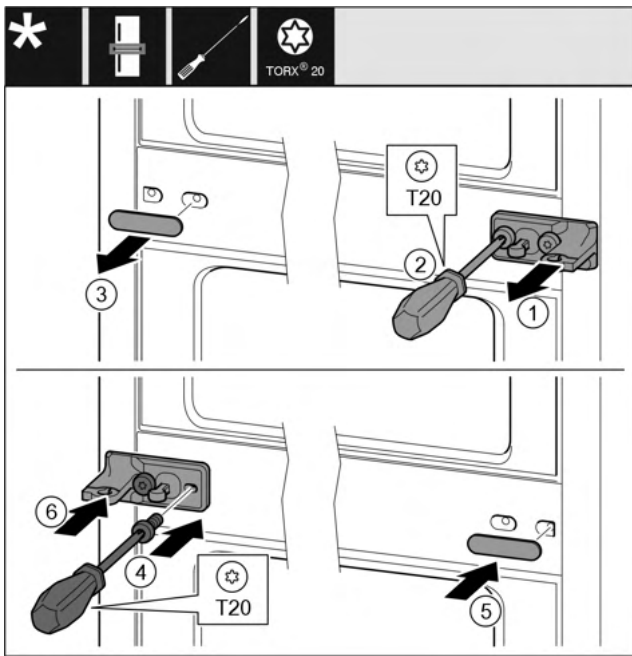

Fig. 32
- ▶ Pull off the washer Fig. 32 (1).
- ▶ Turn out the screws Fig. 32 (2) with the screw driver.
- ▶ Carefully pull off the cover Fig. 32 (3).
- ▶ Tightly screw on the swap bearing block with film Fig. 32 (4) on the other side turned by 180°.
- ▶ Attach the cover Fig. 32 (5) on the other side turned by 180°.
- ▶ Press on the washer Fig. 32 (6) from the front.